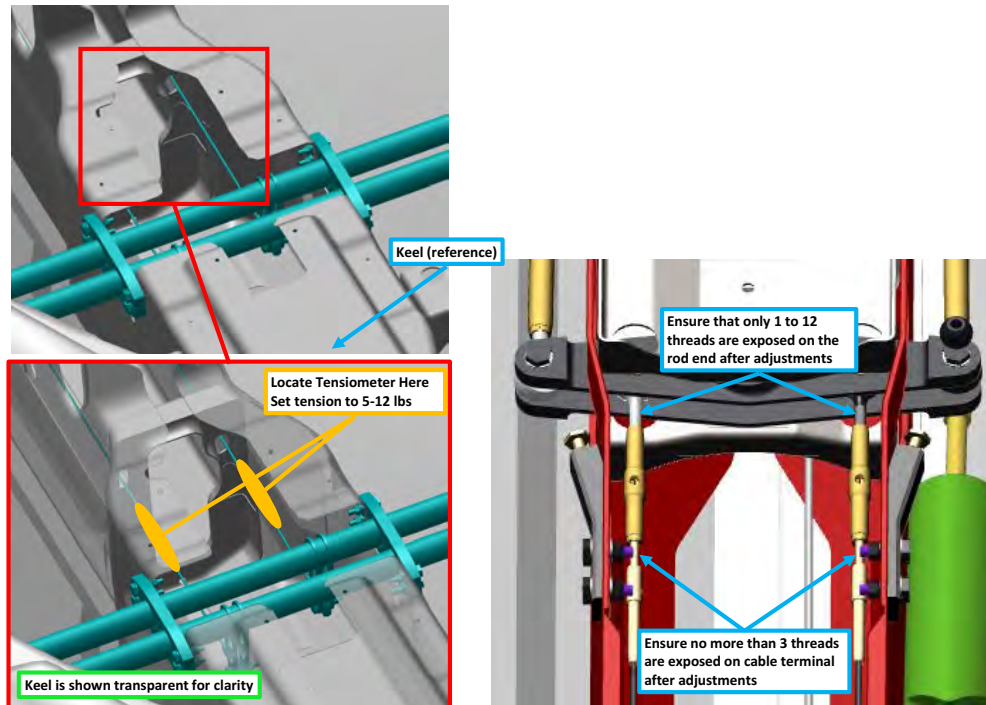

FIGURE 9-57
12. Use a tensiometer (cable thickness = 3/32 in) to rig both middle yaw control cables. To achieve the following, refer to Figure 9-57: